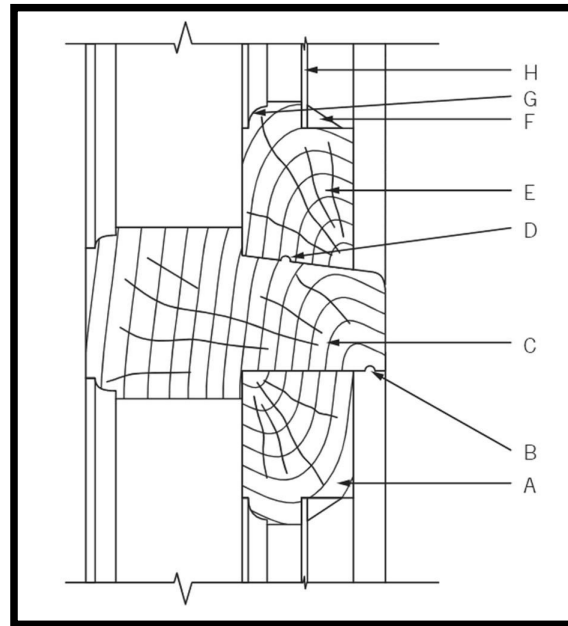

FIGURE 4.4
- 4.4 FIGURE 4.4 below depicts a vertical section through the transom, bottom rail of a fanlight and top rail of a casement.